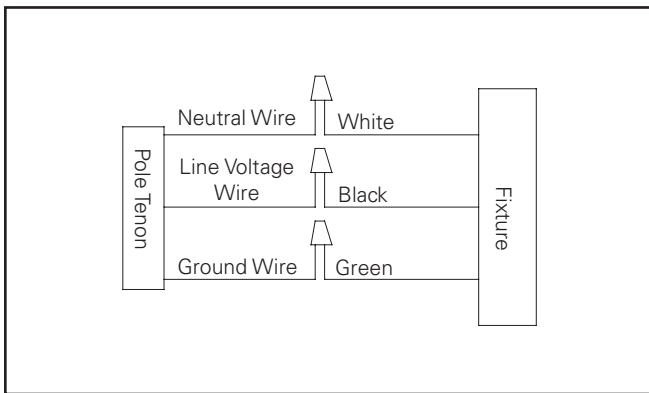

Figure 9.
- Connect supply wires to appropriate luminaire leads (Figure 9.)